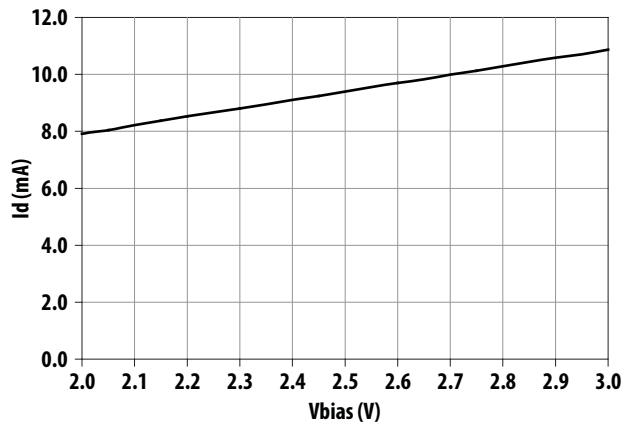

Figure 5. Id vs Vbias (Vdd = 3 V; Vsd = 0 V). Vbias is varies in this plot.
- Device operation in LNA mode if  $V_{bias} > 2.2\text{V}$  and  $V_{sd} < 0.5\text{V}$ . Bias current of LNA can be varied with different values of  $V_{bias}$  for  $V_{bias} > 2.2\text{V}$ . See Fig 5 below.